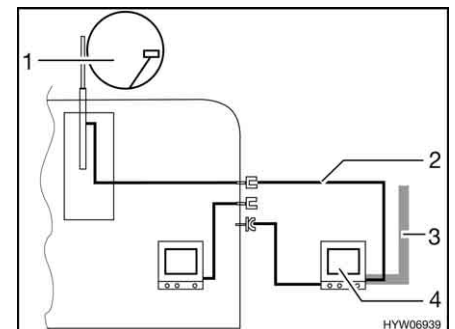

Fig. 151 TV in the awning
- TV inside the awning (Fig. 151,4): Connection to roof antenna (Fig. 151,1) with connection cable (Fig. 151,2)
- TV inside the awning (Fig. 151,4): Connection to external antenna (Fig. 151,3)